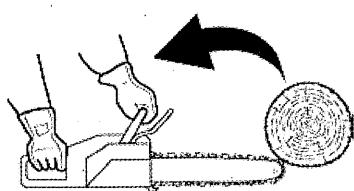

Fig. 28
In some cases, contact with the tip of the guide bar (8) may cause a lightning-fast reverse reaction, kicking the guide bar up and back toward the operator (Figs. 28 - 30).